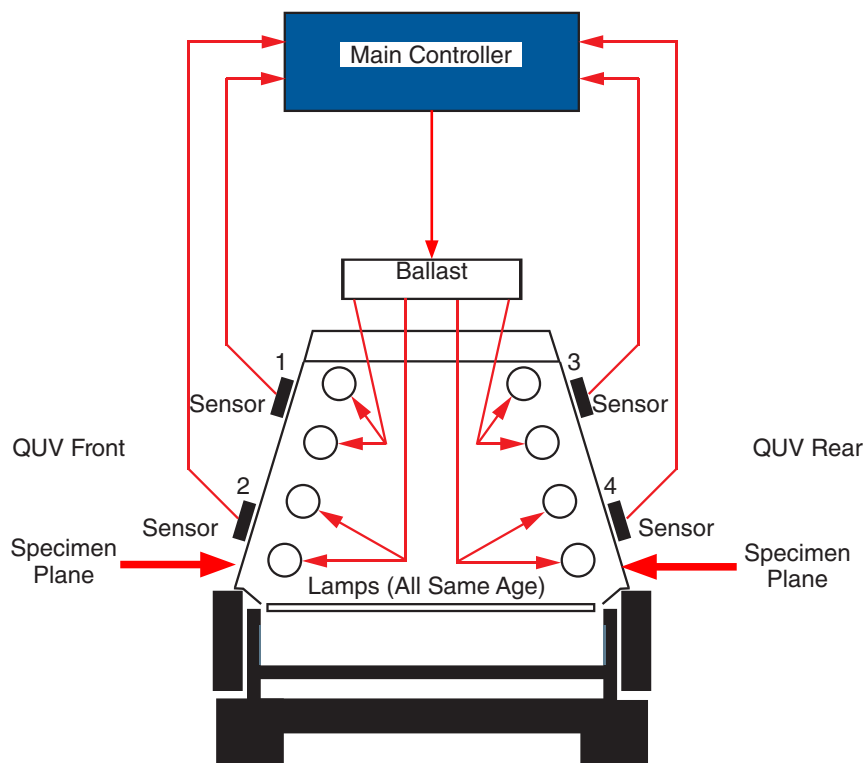
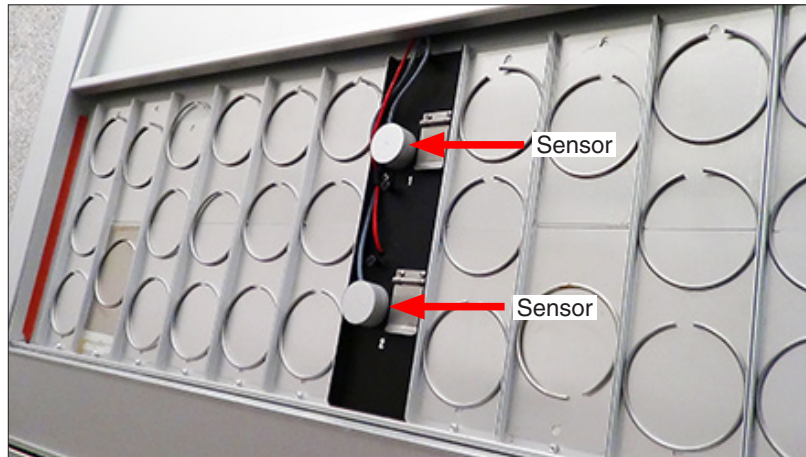

Figure 8.2a: Irradiance control system schematic.
Figure 8.2b: UV sensor locations: two (2) in front specimen exposure area and two (2) in rear (not shown).
- An irradiance control system monitors the UV intensity via four sensors in the specimen plane (Figure 8.2a and Figure 8.2b).
- The UV sensors are located on black panels in the center of the specimen exposure area (Figure 8.2b).